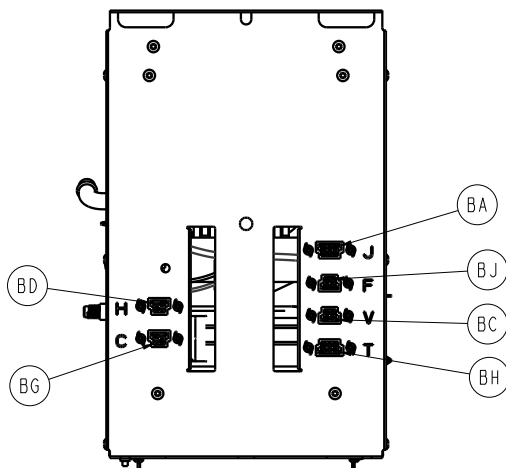

Figure 23: Heater connector
18. Using wire cutters remove the heater connector (BD) from the top bracket labeled H (Figure 23 on page 35).